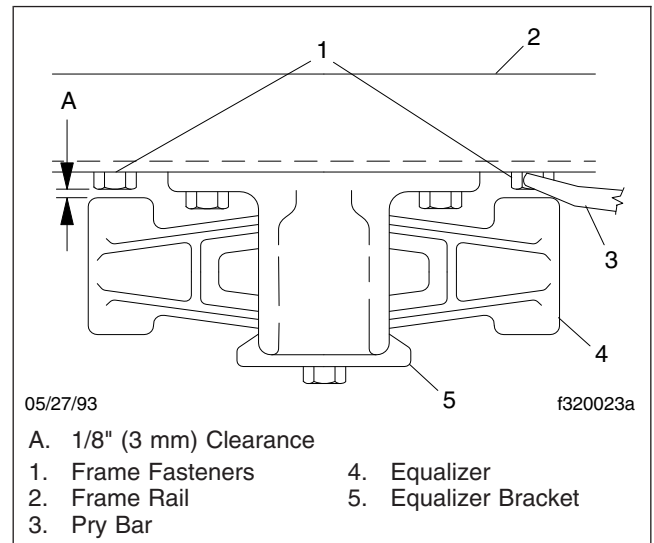

Fig. 5, Top View of the Equalizer
7. With the vehicle unloaded, attempt to move the equalizer side to side, using a pry bar between the equalizer and frame rail. Apply hand pressure only. See **Fig. 5**. If clearance between the equalizer assembly and any frame component or fastener is less than 1/8 inch (3 mm), replace the equalizer bushings. See **Group 32** of the *122SD and Coronado Workshop Manual* for instructions.